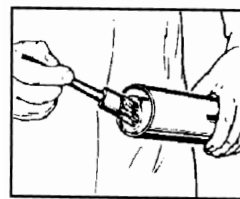

FIG 4.5
9. Grease the drive tubes. (fig 4.5)